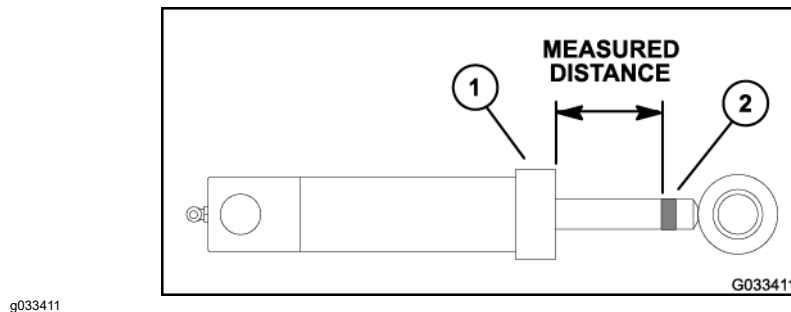

Figure 59
7. Place a piece of tape on the lift cylinder rod near the rod end (Figure 59). Measure and record the distance from the lift cylinder collar to the tape location.